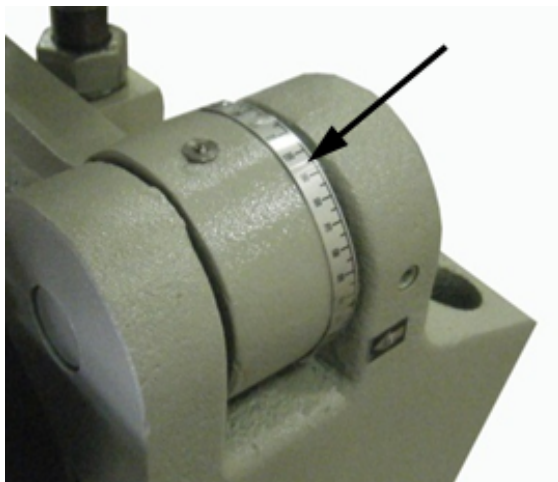

Figure 8-1
4. Pull up on the bending leaf handles until the piece part has reached the desired bend angle (fig. 8-1).